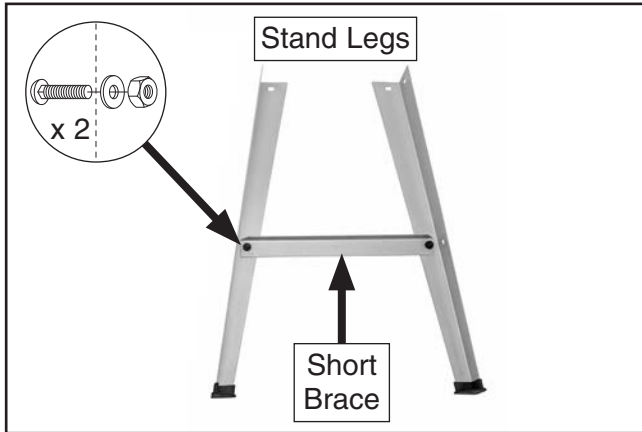

Figure 12. Stand legs attached to short braces.
- Attach (1) short brace to (2) stand legs with (2) M8-1.25 x 16 carriage bolts, 8mm flat washers, and M8-1.25 hex nuts, as shown in **Figure 12**. Only finger tighten for now.